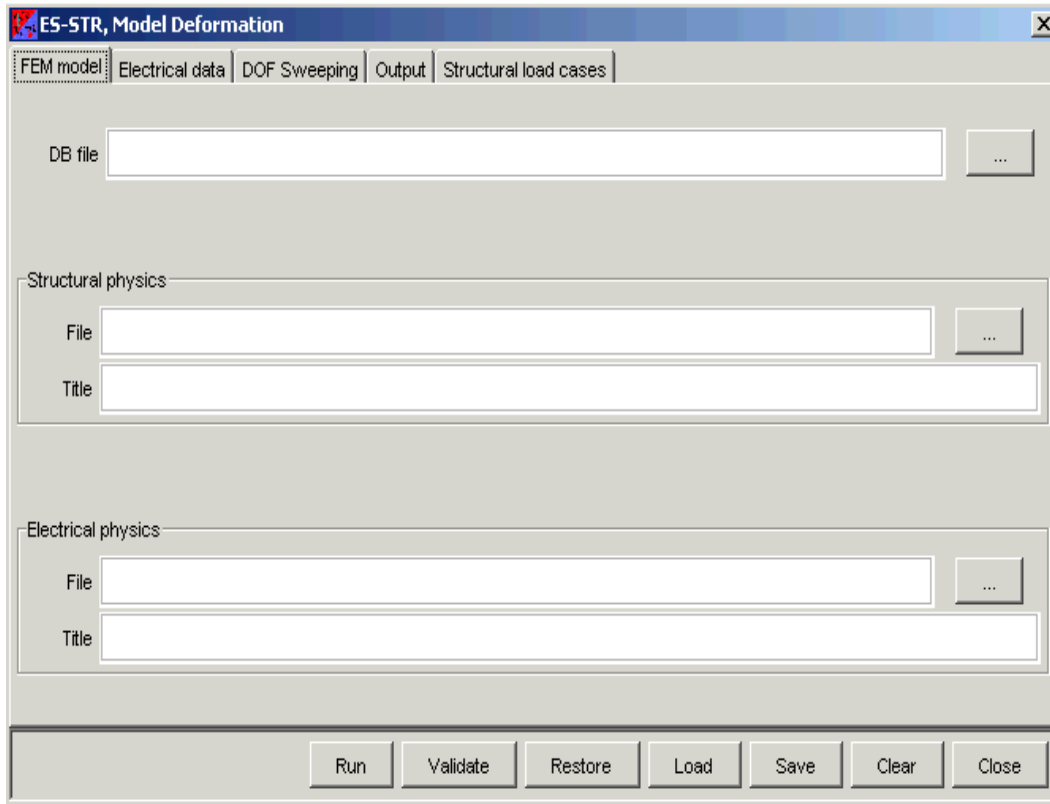

Figure 112: Selecting electro-static algorithm.
- Select the Electro-Static algorithm by clicking **Tools -> ES-STR, Model Deformation** (Figure 112).